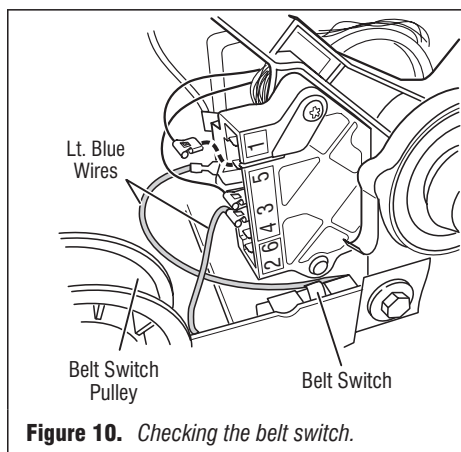

Figure 10. Checking the belt switch.
8. Check the belt switch by measuring resistance between the two light blue wires, as shown in figure 10, page 6, while pushing up the belt switch pulley.